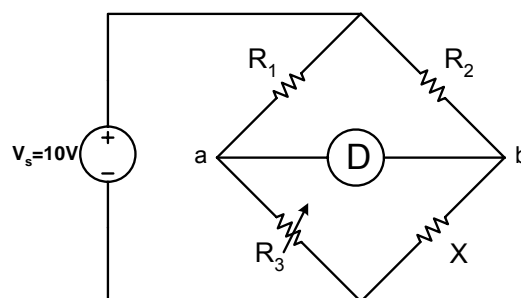

Figure 4: Simplified Wheatstone Bridge Circuit
A simplified Wheatstone bridge circuit is shown in Figure 4. In the figure, R_1 , R_2 and R_3 are precision, adjustable resistances and X is the unknown resistance. You are required to measure the unknown resistance X .
1. Connect the power supply and resistances as shown in figure 4.